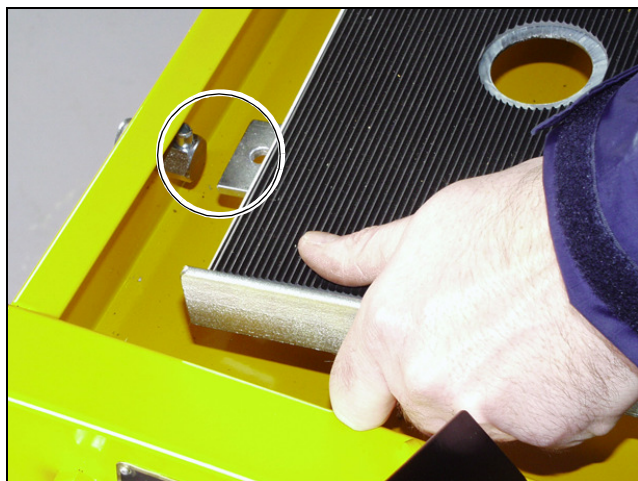

Fig. 5.1 Receptacle of the work table
- To clean the water bucket, remove the roller table. The roller table is hinged one- sided to the frame (Fig. 5.1) and can be removed without the need of tools.